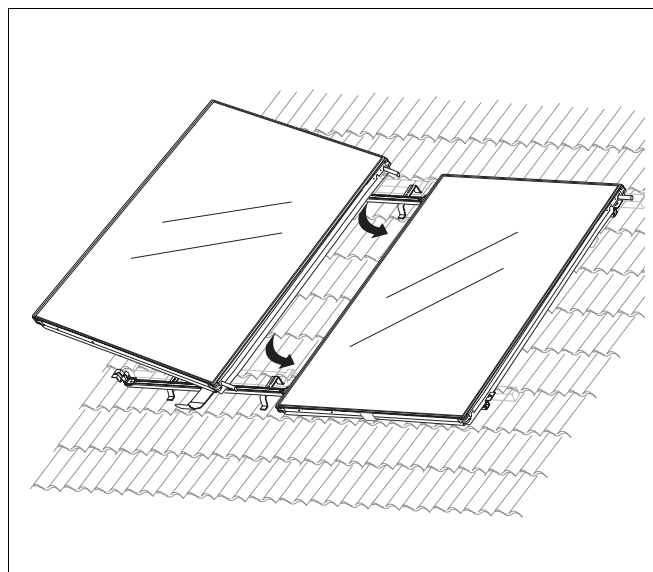

Fig. 35 Inserting the second collector and tightening the hose clip
- ▶ Whilst inserting the next collector, push the pre-assembled solar hoses onto the connections of the previously installed collector (Fig. 35).